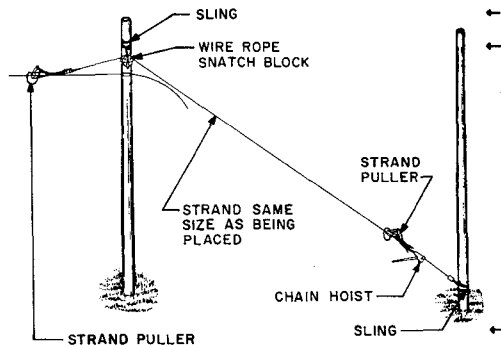
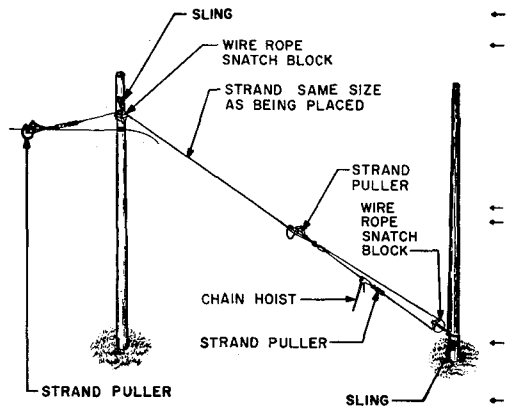

Fig. 8 — Alternate Method of Maintaining Tension for 6M or 10M Strand
Fig. 9 — Alternate Method of Maintaining Tension for 16M Strand
4.10 An alternate method of pulling up strand and temporarily maintaining tension is illustrated in Fig. 8 for 6M or 10M strand, and Fig. 9 for 16M strand. **Do not leave a chain hoist under tension for an extended period of time or in a location where it is accessible to the public.**